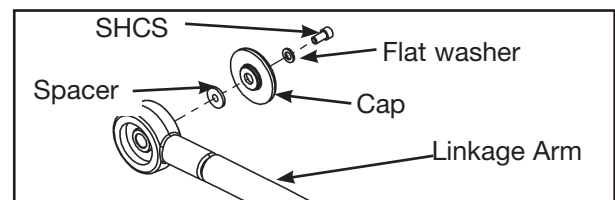

Figure 3
- A. Using a 3/16" Allen wrench, remove the SHCS and spacer securing the linkage arm. See figure 3. **NOTE:** Figure 3 shows the contents of the linkage cap kit that will be installed in step 23A.